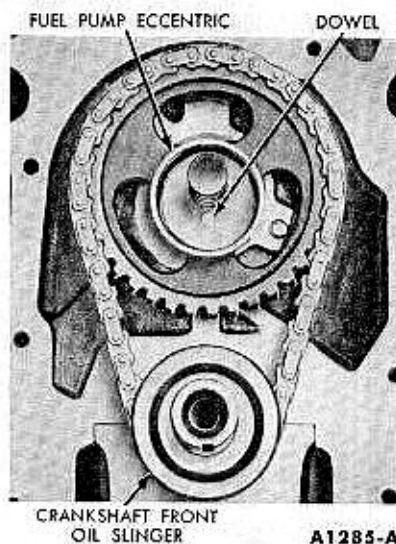

FIG. 44—Fuel Pump Eccentric and Front Oil Slinger Installed
7. Install the fuel pump eccentric (Fig. 44), and the camshaft sprocket cap screw and thrust button spring retainer. Tighten the sprocket cap screw to specifications. Install the camshaft thrust button spring and thrust button. Install the crankshaft front oil slinger.